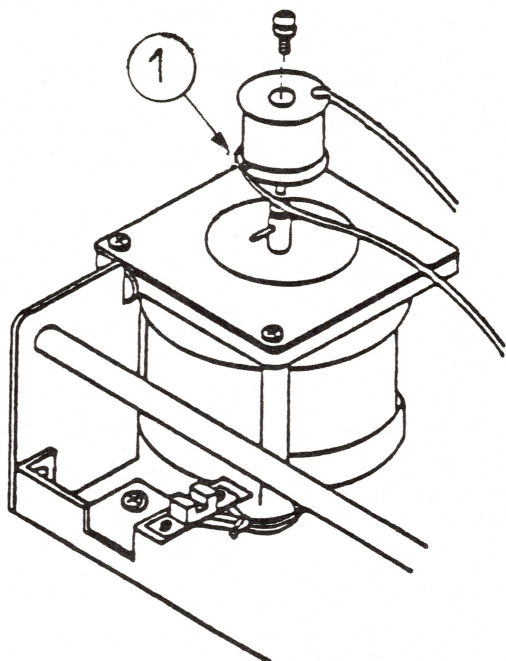

FIGURE 8
20. Remove the bottom end of the carrier wire from the motor pulley (see Figure 8, #1).